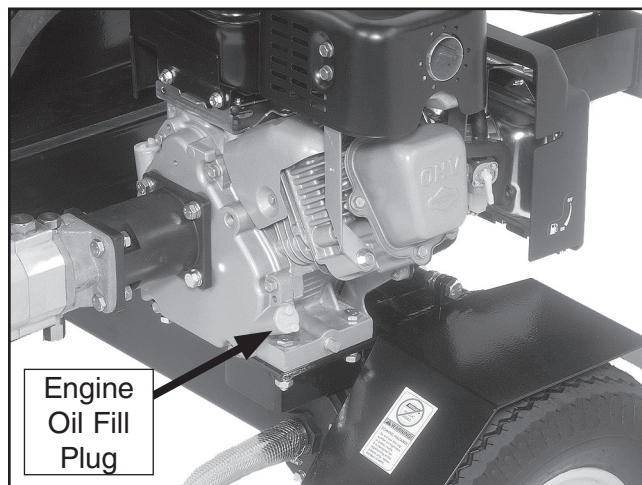

Figure 19. Engine oil fill plug.
30. Refer to the Briggs & Stratton owner's manual to select your required oil type, locate the fill plug (**Figure 19**), and fill the engine with the required engine oil.